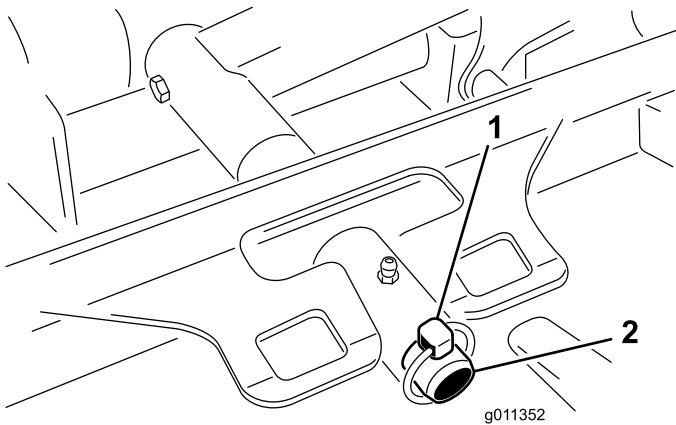

Figure 83
3. Remove the lynch pin (for Groundsmaster 4500 machines) or retaining nut (for Groundsmaster 4700 machines) securing the cutting unit-carrier frame to the lift-arm pivot pin (Figure 83).
2. Slide the cutting unit-carrier frame onto the lift-arm-pivot pin (Figure 83). Secure the cutting unit to the pin with the lynch pin (for Groundsmaster 4500 machines) or retaining nut (for Groundsmaster 4700 machines).